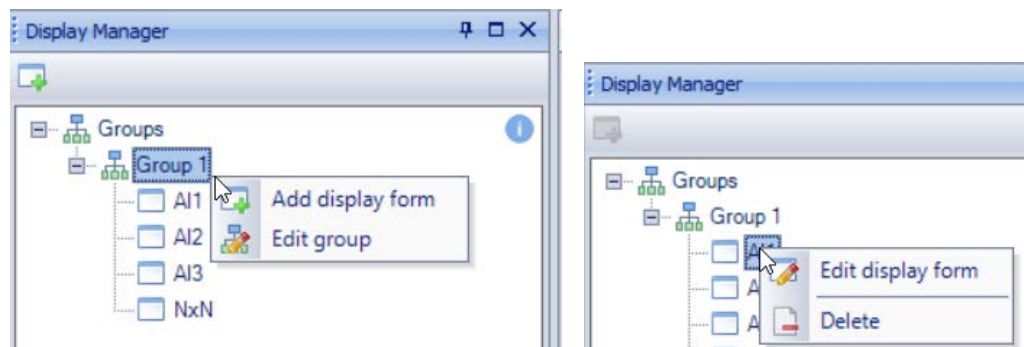

Fig. 8.1 Display Manager
To open a graphical structure of display forms in Structure Editor (see 2.6.1, 8.2), use the command **Edit group** in the group context menu (Fig. 8.1).
To open the selected form in Display Editor (see 2.6.2), use the command **Edit display form** in the form context menu or double-click the form in the tree (Fig. 8.1).
- In Display Manager, use the group context menu or the toolbar icon  (active if the group is selected) (Fig. 8.1).
- In Display Manager, use the context menu (Fig. 8.1).